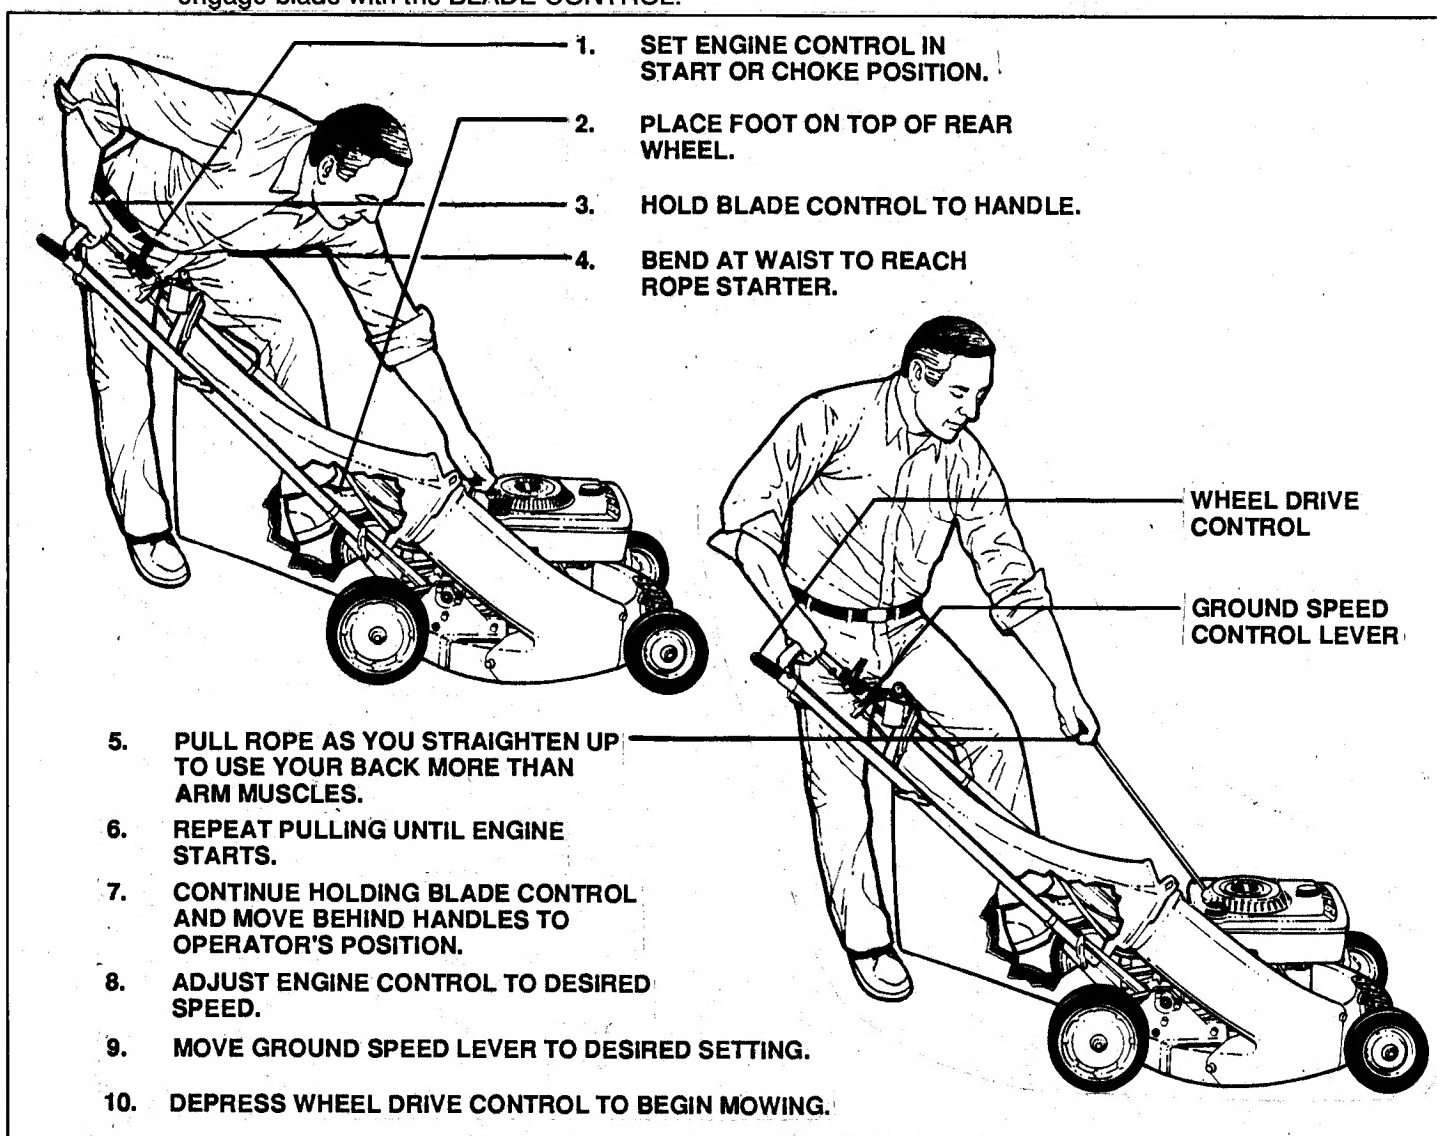

FIGURE 1.2 MANUAL START PROCEDURE
6. Repeat pulling until engine starts, guide rope slowly back to engine (the rope may break if allowed to snap back), continue holding BLADE CONTROL and move behind handles to operator's position. See Figure 1.2.